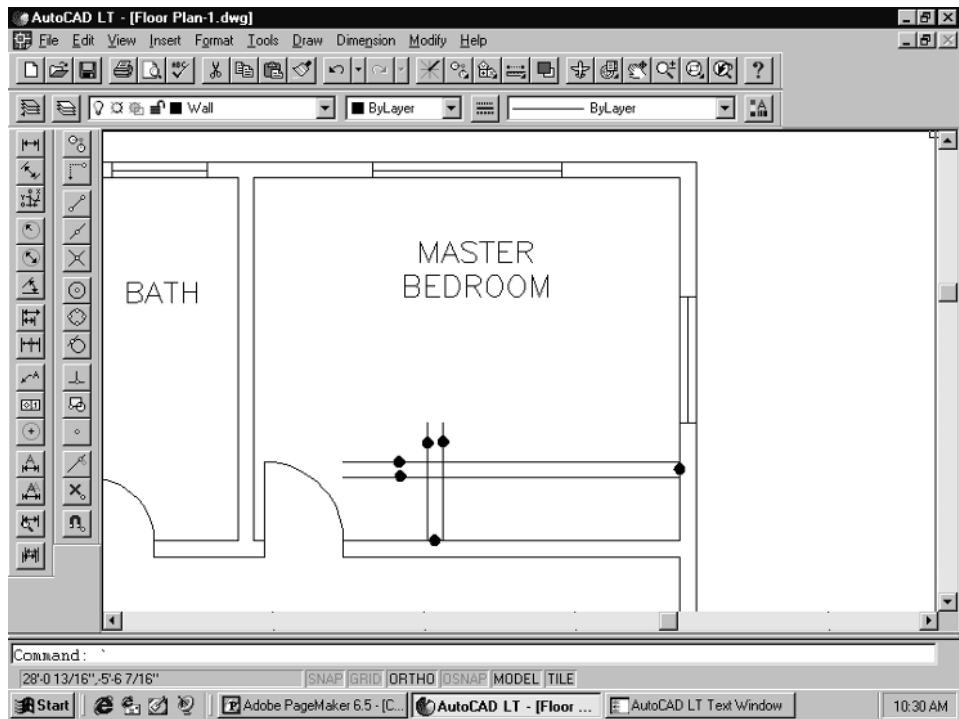

Figure 2-51
2. You will now need to do a quick cleanup of the closet wall lines. The fastest way is to use the Trim command. Pick **Trim** from the Modify pull-down menu. When the *Select cutting edges: (Projmode = UCS, Edgemode = No extend)* Select object prompt appears, hit **Enter**. This selects all lines as cutting edges. At the <Select object to trim>/Project/Edge/Undo prompt, pick the lines to trim out, as shown in Figure 2-51.